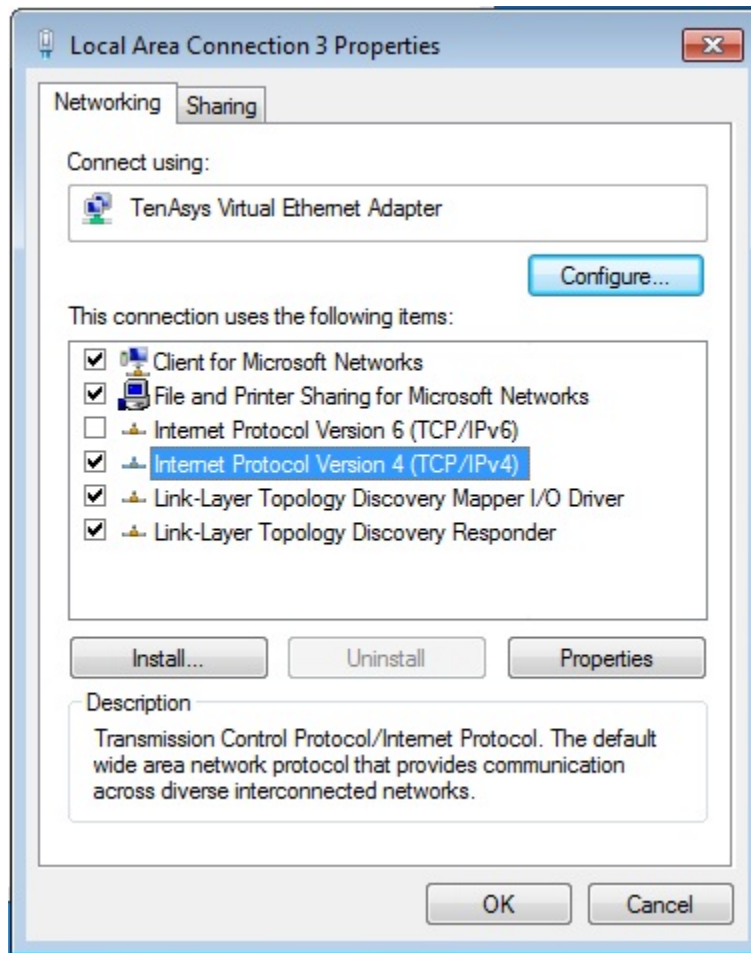

Figure 4.31 - Selecting TenAsys Virtual Ethernet Adapter TCP/IPv4 Properties
5. Select Internet Protocol Version 4(TCP/IPv4), and click the Properties button, Figure 4.31.